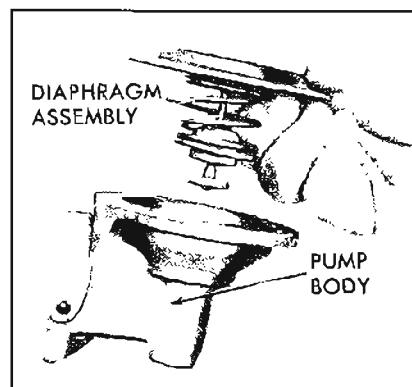

Figure 3-22—Installing Diaphragm Assembly
1. Install rocker arm return spring and diaphragm assembly in pump body. See Figure 3-22.